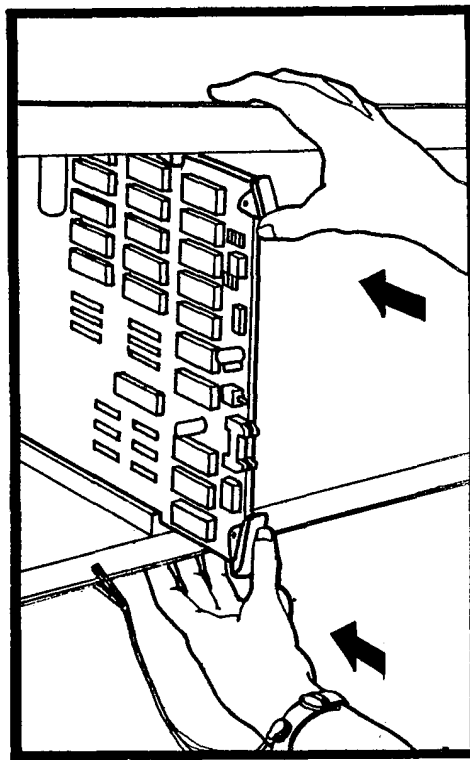

Figure 5-8 PCBS INSERTION INTO KSU
**5.07** PCBs should be installed with the thumb of each hand on the PCB extractors while the fingers rest on the KSU frame. ( Figure 5-8 ). Do not use the heel of the hand, or any tool, to hammer a PCB into the KSU.